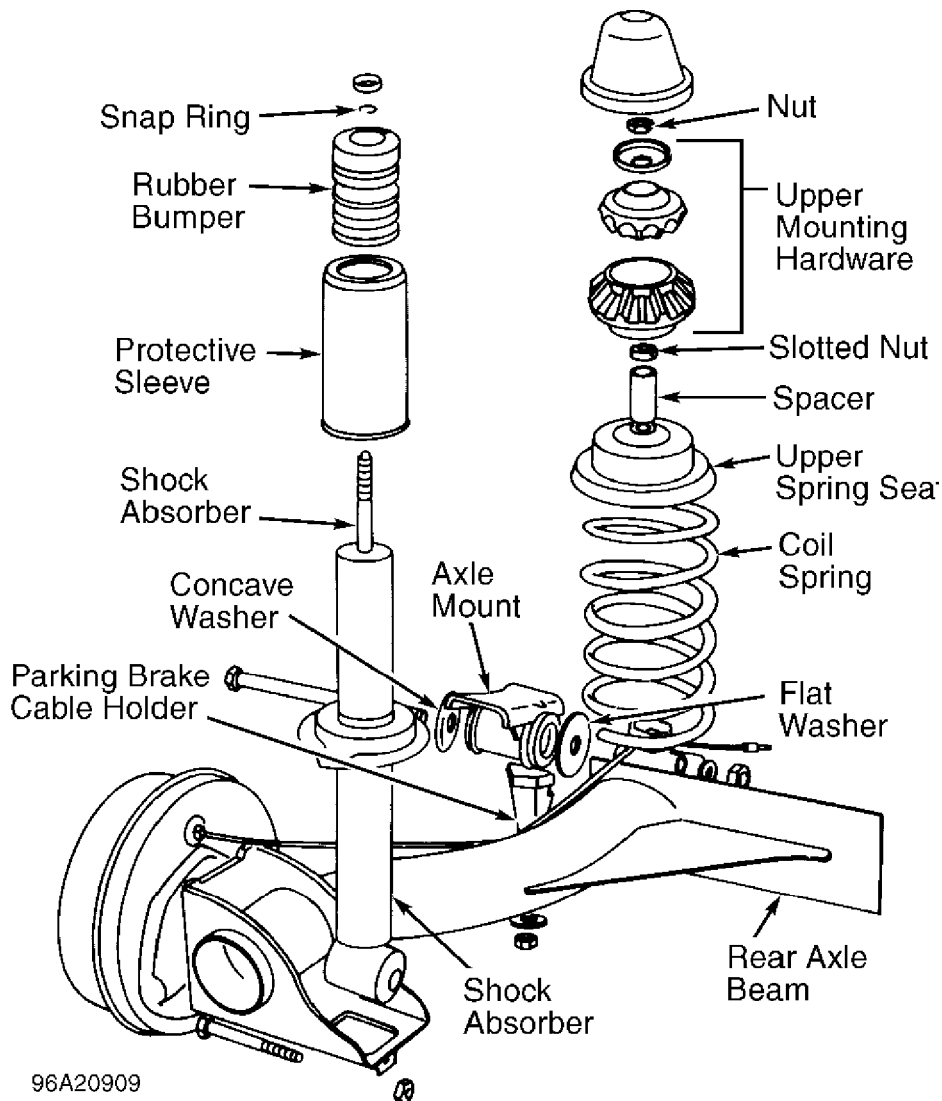

Fig. 1: Identifying Rear Suspension Components (Typical)
Suspension uses control arms and axle beam for stabilization. Control arms and axle beam are combined as one unit. Brake drums or discs rotate on stub axles bolted to control arms. See Fig. 1.
2) Hold piston rod. Remove piston rod nut and related components. See Fig. 1. Remove slotted nut (some models). Remove spacer and coil spring. If coil spring is to be replaced, ensure paint stripe color on replacement spring matches original spring color stripe.